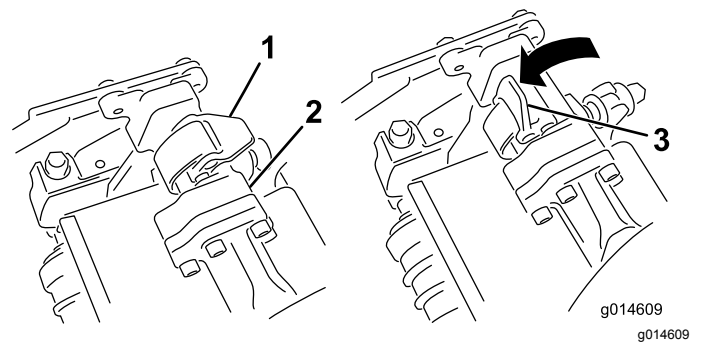
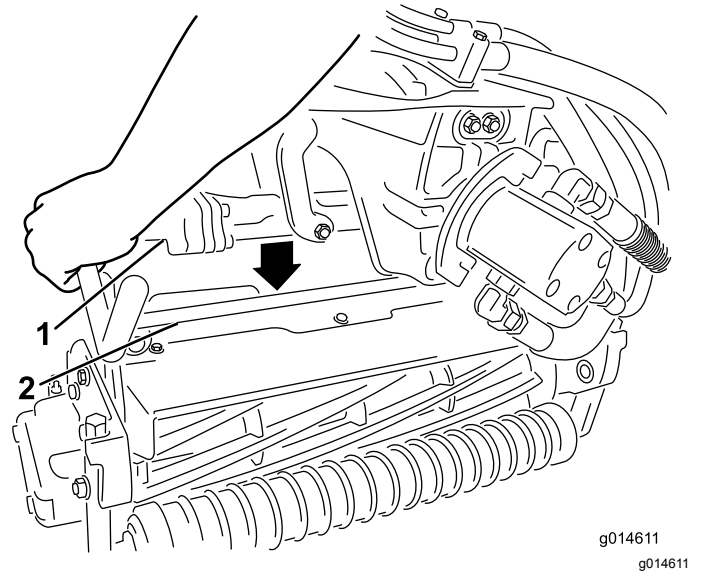

Figure 44
Figure 45
4. Close the latches down and around the cutting-unit bar and lock them in place (Figure 44).
3. With the latches on the suspension-arm bar pointing up (i.e., open) (Figure 44), push the suspension arm down so that the bar fits over the bar across the top of the cutting unit (Figure 45).
4. Open the latches on the suspension-arm bar of the cutting unit you are removing (Figure 44).